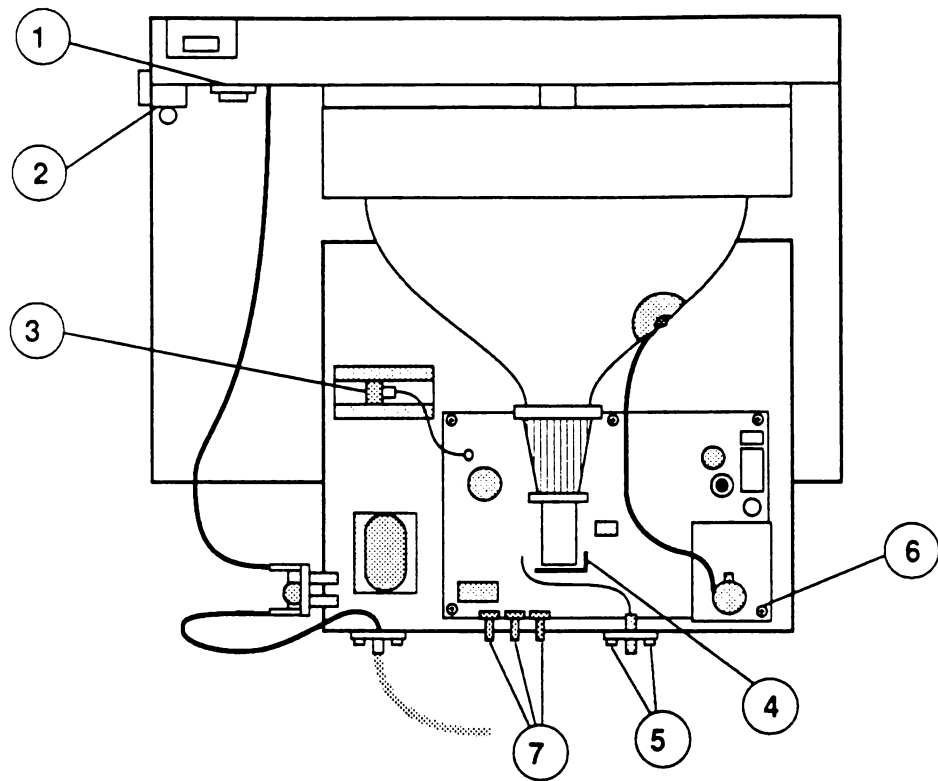

**FIGURE 11**
10. Remove the LED mounting screw (Figure 11, #1) and the two mounting screws that secure the contrast control (Figure 11, #2). The LED assembly and the contrast control assembly will remain attached to the main electronics assembly. Using diagonal cutters, carefully cut all tie wraps along these wires.
11. Disconnect the 3-wire connector (Figure 11, #3) from the transistor on the bottom of the metal chassis.
12. Disconnect the socket (Figure 11, #4) from the neck of the CRT.
13. Remove the two screws (Figure 11, #5) that attach the video jack to the chassis.
15. The right-rear mounting screw (Figure 11, #6) also holds the flyback transformer shield. The connection between this corner of the main electronics assembly and the undermounting has been strengthened with glue. After removing the screw, remove the transformer shield, then loosen the glue by sliding an exacto knife between the main electronics board and the undermounting. Attempting to lift the board before the glue has been loosened will break the corner and make the main electronics assembly worthless.
16. The main electronics assembly can now be removed by sliding it forward to allow the rear control knobs (Figure 11, #7) to clear the chassis, and then lifting the board up and out.
1. Mount the main electronics assembly on the chassis, fitting the three rear control knobs (Figure 11, #7) through the holes in the chassis. Secure the board with the five mounting screws, making sure the flyback transformer shield also is secured with the right-rear mounting screw (Figure 11, #6).
2. Replace the two screws that secure the video jack (Figure 11, #5).
3. Replace the CRT socket (Figure 11, #4).
4. Connect the 3-wire connector to the transistor (Figure 11, #3) on the bottom of the chassis. Make sure the red wire is toward the back of the monitor. (A reversed connection results in a wavy screen and overheating of the regulator.)
5. Replace the screws that secure the LED assembly (Figure 11, #1) and the contrast control assembly (Figure 11, #2) to the inside of the bezel.